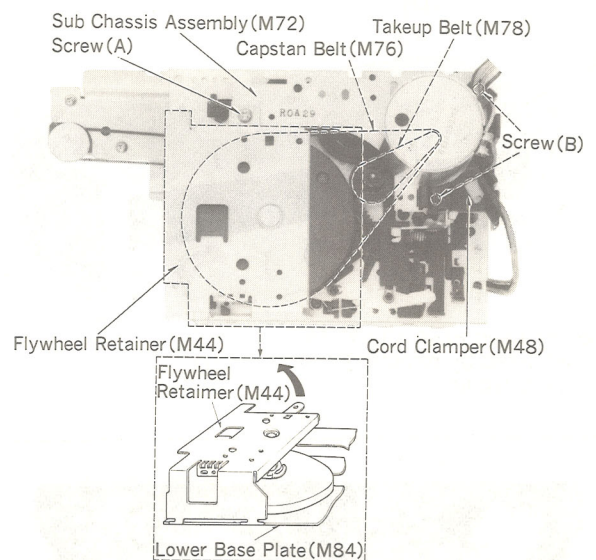

Fig. 9
1. Remove screw (A), and then detach flywheel retainer (M44) by pulling it in the direction of the arrow as in fig. 9.
2. After removing screws (B), detach takeup belt (M78) and capstan belt (M76), and then sub chassis assembly (M72) can be removed. (fig. 9, 10)
5. Attach the screw (A) in the position as shown in fig. 9.